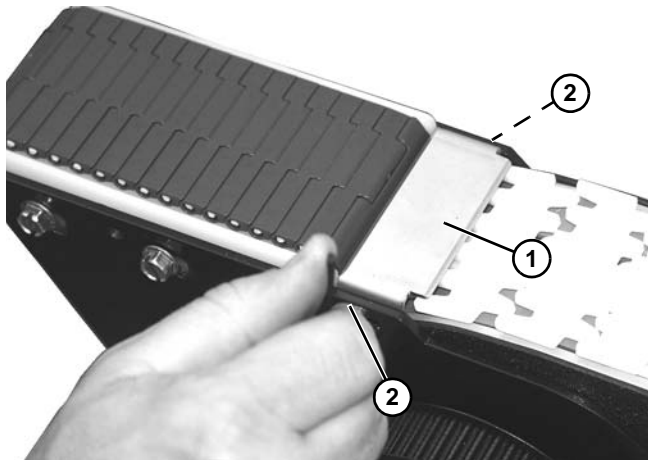

Figure 178
8. Install pinch guard (**Figure 178, item 1**) with two socket head screws (**Figure 178, item 2**).